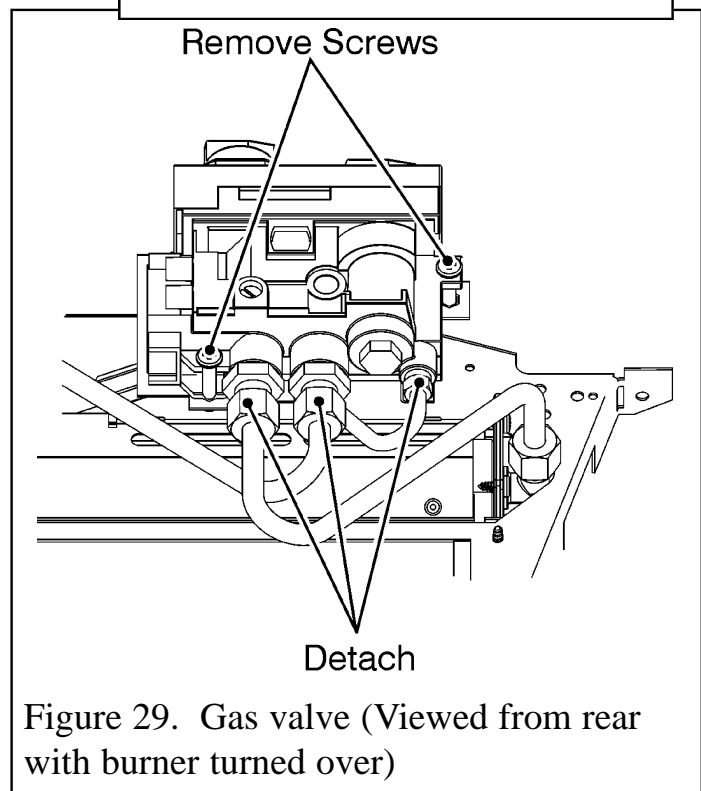

Figure 29. Gas valve (Viewed from rear with burner turned over)
(See figure 29).
5. Undo the inlet, outlet and pilot nuts on the gas valve (See figure 29).
6. Remove the two mounting screws on the underside of the gas valve (See figure 29).